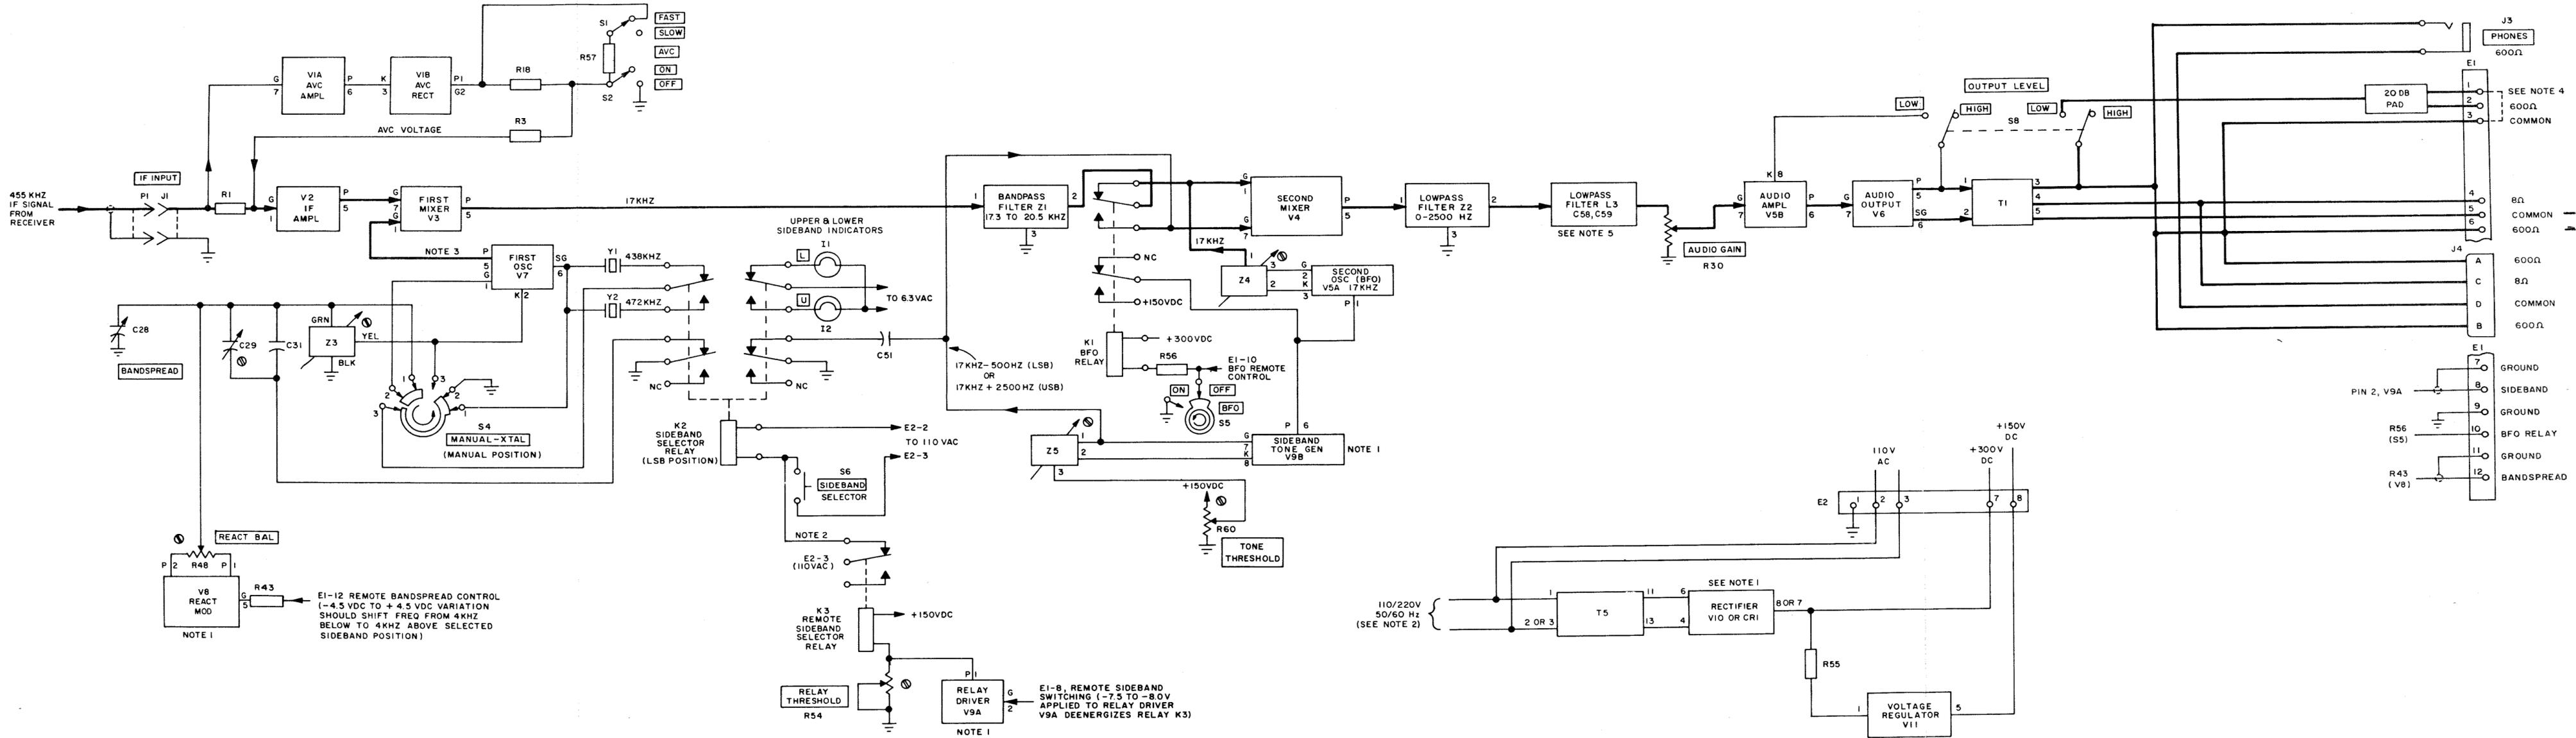

Figure 5-2. Single Sideband Converter CV-591A/URR, Signal Flow Diagram
5.1.4 The next step in logical troubleshooting is to determine the section in which the trouble is located. The converter can be logically broken down into three general sections: the audio, the mixers, and the IF amplifier. The overall description (paragraph 3-1) and overall block diagram (figure 5-2) should be referred to when selecting possible faulty functional sections.
5.1.5 The best method to pinpoint the faulty section is to connect an output meter to the audio output (figure 5-2) and insert an appropriate signal frequency into the grid of second mixer V4. A correct output (Table 5-1) indicates the audio section and the second mixer of the mixers section are not faulty. Inserting the IF frequency of 455 kHz into the first mixer and then the input of the IF amplifier and observing the output meter, will pinpoint the faulty section. If all sections appear to be faulty, a logical common circuit to check is the power supply.
5.1.6 After the faulty functional section has been isolated, it is often necessary to make additional "logical choices" as to which circuit or group of circuits (within the functional section) is at fault. A signal flow diagram (figure 5-2) provides the signal flow path and test location information needed to bracket, and then isolate the faulty circuit.
High Level: 2W (8 or 600 ohms)	Figures 5-2 and 5-3
Low Level: 150 mW (8 or 600 ohms)	Figures 5-2 and 5-3
Telephone Line: 1 mW (600 ohms, 0 DBM)	Figures 5-2 and 5-3
Proceed to step 3.	Figure 5-2